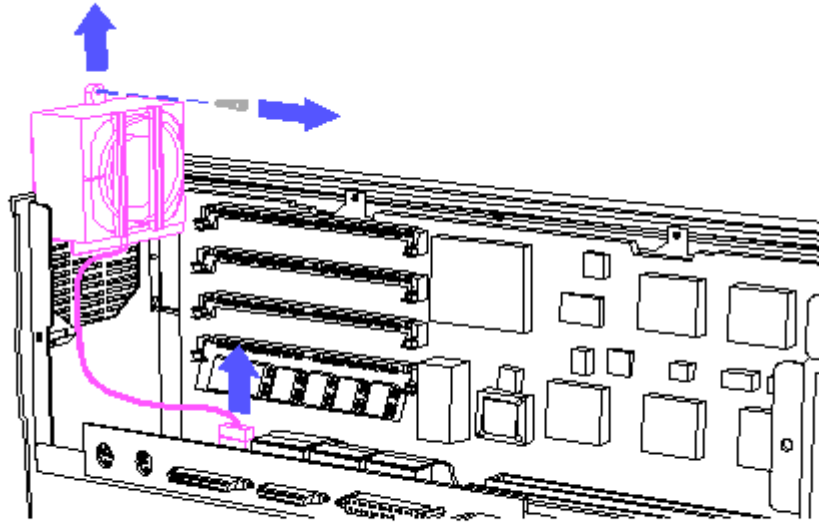

Figure 5-14. Removing the Fan Assembly
3. Carefully disconnect the fan assembly cable (Figure 5-14).
4. Using a Torx T-10 screwdriver, remove the screw securing the fan assembly (Figure 5-14).
5. Slide the fan assembly out (Figure 5-14).